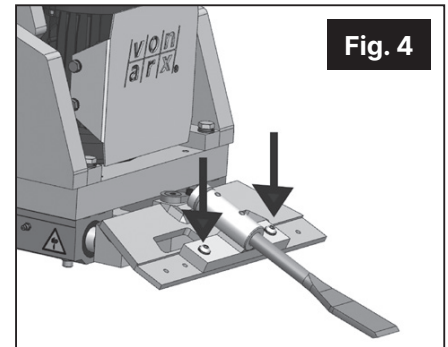

Fig. 4
- Mount the chisel holder on the lower blade holder and use the screws to fasten it (Fig. 4).